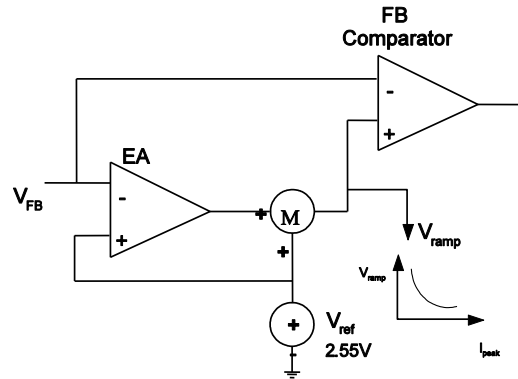

Figure 5: EA and Ramp Compensation
To achieve a better load regulation, the MP9488 employs an error amplifier (EA) compensation function (see Figure 5). After a 6μs delay from the MOSFET turning off, the MP9488 samples the feedback voltage. With EA compensation, the reference voltage (2.55V) can be regulated with the load. This can achieve a better regulation of the power module.
To maintain a precise output voltage, an internal ramp compensation circuit is added. An exponential voltage sinking source is added to pull down the reference voltage of the feedback comparator (see Figure 5). The ramp compensation is related to the load conditions. In full-load condition, the compensation is about 3mV/μs. When the load decreases, the compensation increases exponentially.